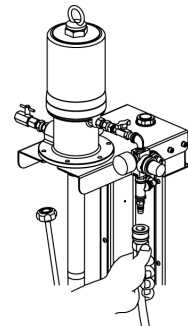

Fig. 5
- 3) Connect the air hose prepared at Section 2.1 6) to the air supply inlet, and supply air to the machine. (Fig. 5)